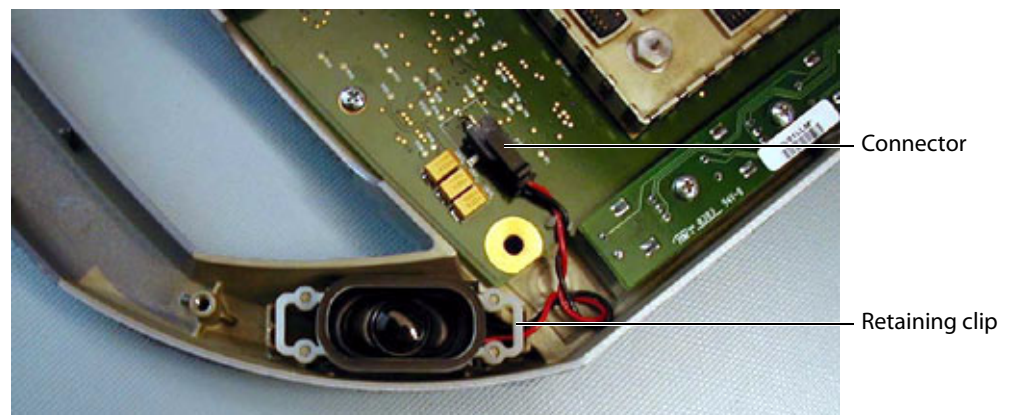

Figure 7.8 Speaker Replacement
- 2 Gently pry off the retaining clip with a flat bladed pry tool. See Figure 7.8.